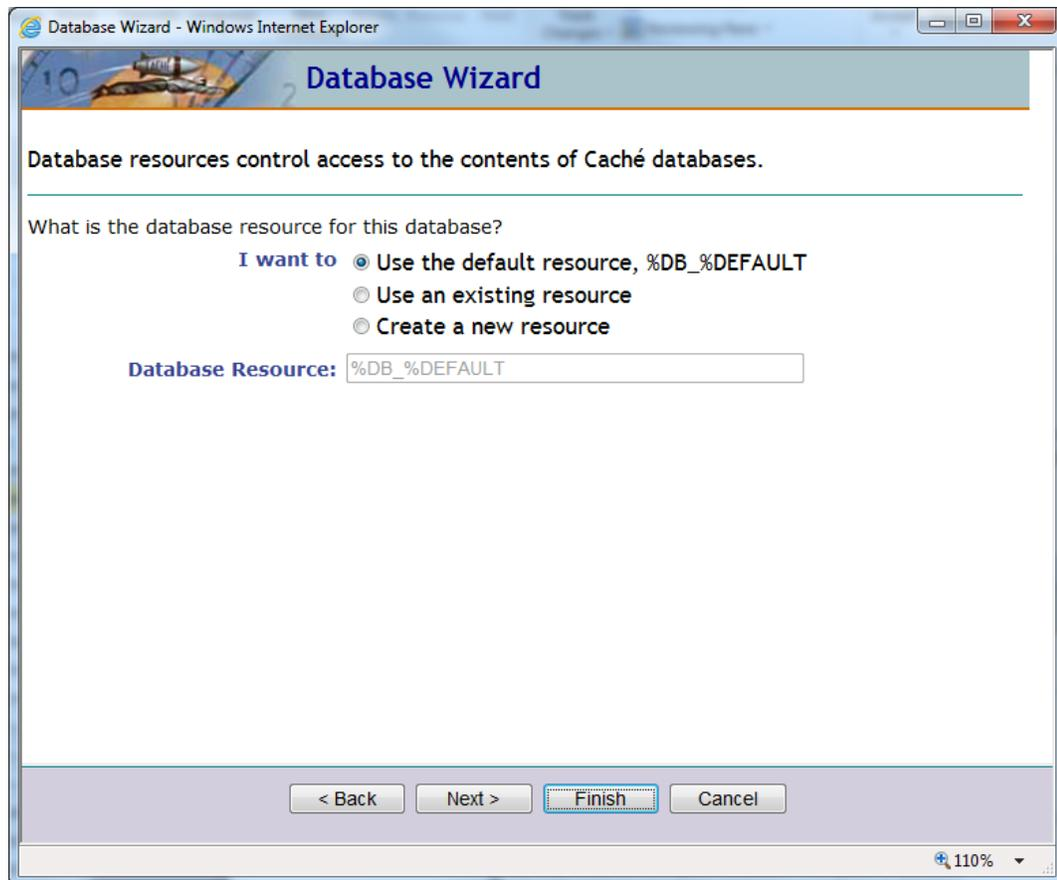

Figure 3-6: Database Wizard dialog
- Initial Size (MB): **10**
12. Click **Next** to display the **Database Wizard** window shown in (Figure 3-6):